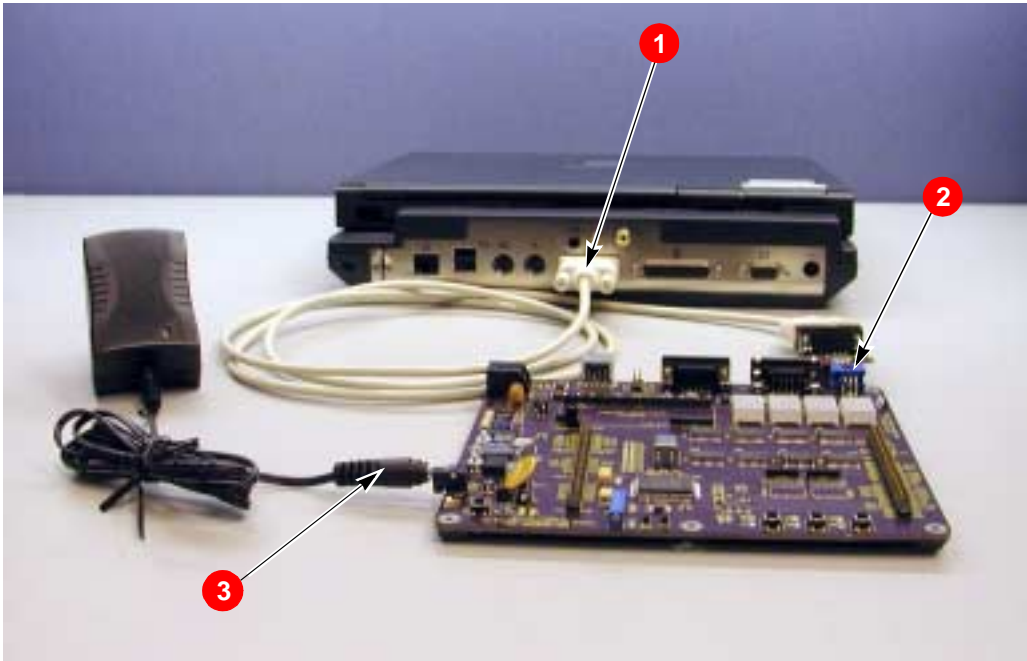

Figure 4. Evaluation Board External Connections
3. Connect the 9VDC universal power supply to the Evaluation board, then to an electrical outlet (see Figure 4).